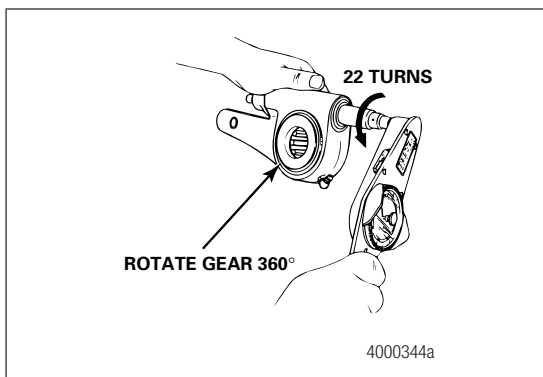

Figure 4.4
4. Use a lb-in torque wrench and turn the adjusting nut **COUNTERCLOCKWISE** (Figure 4.4) to rotate the gear 360 degrees, or 22 turns of the wrench, as you read the torque scale on the wrench. The value should be less than 25 lb-in (2.83 N•m) as you rotate the gear.